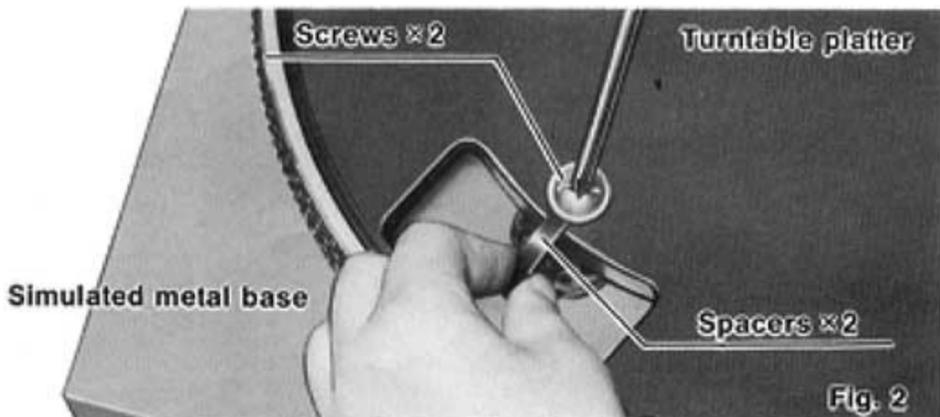

Fig. 2
*We recommend that you keep these items for future use, when the unit must again be transported (See Fig. 2)